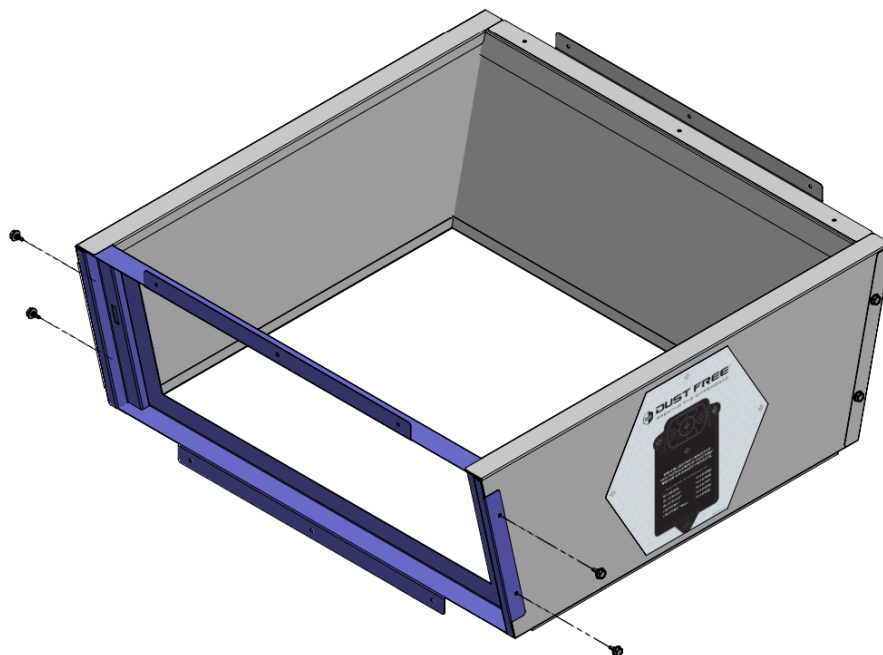

Figure 8: Secure door frame to rest of unit with supplied No.10 x 3/8" screws.
7. Secure the door frame to the side panels using the supplied **No. 10 x 3/8"** screws in the aligned pre-drilled holes as depicted in **Figure 8**.